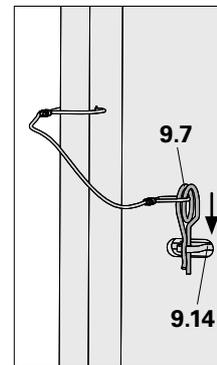

Fig. A1.35
3. 3. Insert cotter pin (9.7) into the hole of the yellow lug (9.14). (Fig. A1.35)